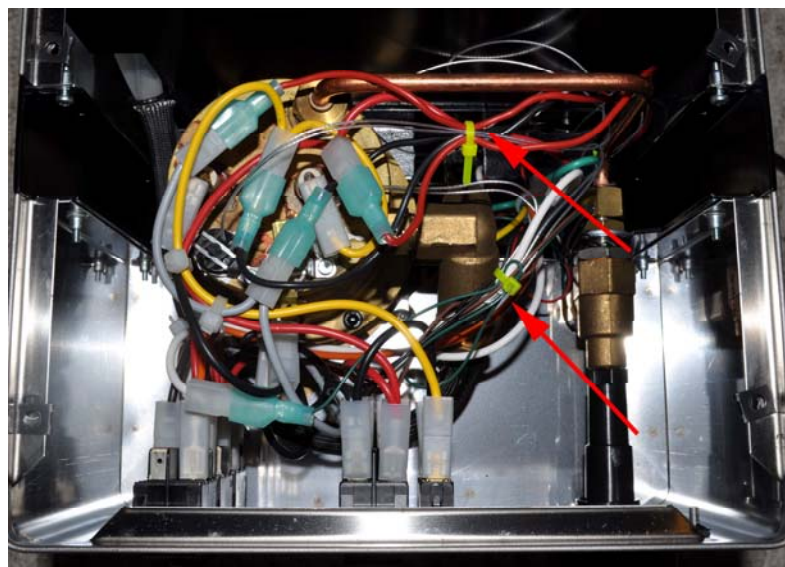

Figure 32. Tie up the cables.
- 9) Tie up the wire in the boiler compartment (see Figure 32). Make sure there are no cables touching the boiler surface. This is especially important for the cables installed by the factory. The cables installed by the factory have PVC insulation that will melt when touching the hot boiler surface. It can result in electric shock.